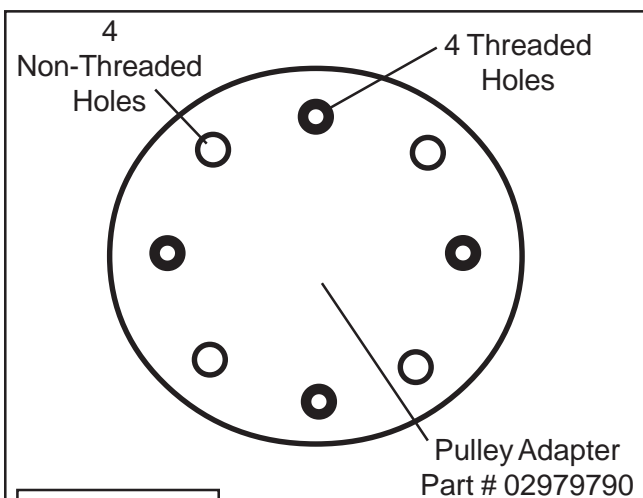

Figure 4
3. Install Pulley Adapter. The Pulley adapter to be used is a round plate with 4 threaded holes and four non-threaded holes in it. Notice this pulley adapter will not have a center hole in it (See Figure 4). The Non-threaded holes are used to mount the Adapter to the Pulley using bolts # 02979791 (10mm P1.5 X 35mm Gr10.9) & Lockwasher # 00755954 (10 mm). Do not use longer bolts to mount Pulley Adapter to Pulley than is supplied with mounting kit.